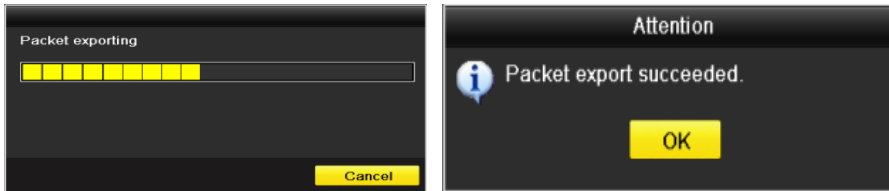

Figure 11-32 Packet Export Attention
Step 5 After the exporting is complete, click **OK** to finish the packet export, as shown in Figure 11-32.